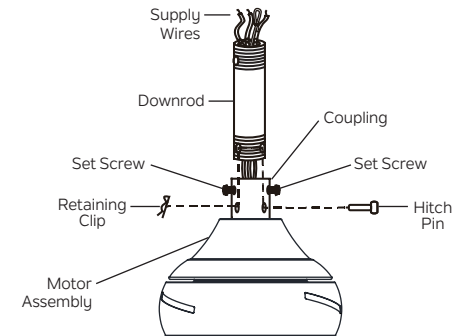

Fig. 7
Step 4. Loosen the two set screws (do not remove) in the coupling on top of the motor assembly. (Fig. 7)
Step 5. Carefully feed the electrical lead wires and safety cable from the coupling on top of the motor assembly up through the downrod. Thread the downrod into the coupling on top of the motor assembly until the hitch pin holes in the downrod and the hitch pin holes in the coupling are aligned. (Fig. 7)
Step 6. Carefully insert the hitch pin through the holes in the coupling and the downrod. (Fig. 7)
Insert the retaining clip through the hole near the end of the hitch pin until it snaps into its locked position. (Fig. 7)
Step 7. Tighten the two set screws in the coupling on top of the motor assembly firmly. (Fig. 7)